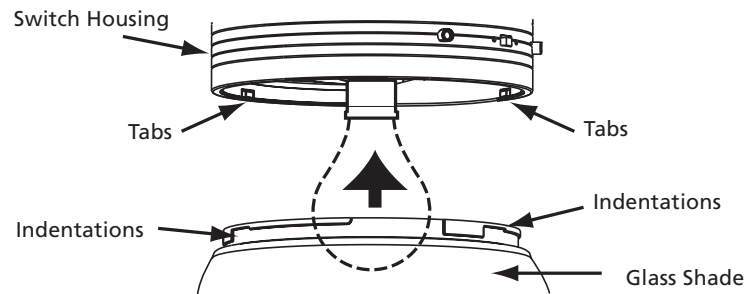

Figure 9e
1. Install E-27 (60 W) light bulb (not included). Position the indentations in the outer rim of the glass shade so that they line up with the tabs on the inside surface of the fan light fixture rim. See Figure 9e.